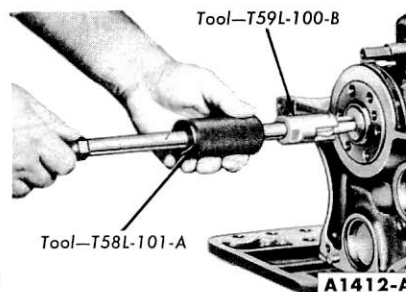

FIG. 39—Clutch Pilot Bushing Removal
15. Remove the flywheel. Remove the clutch pilot bushing (Fig. 39).